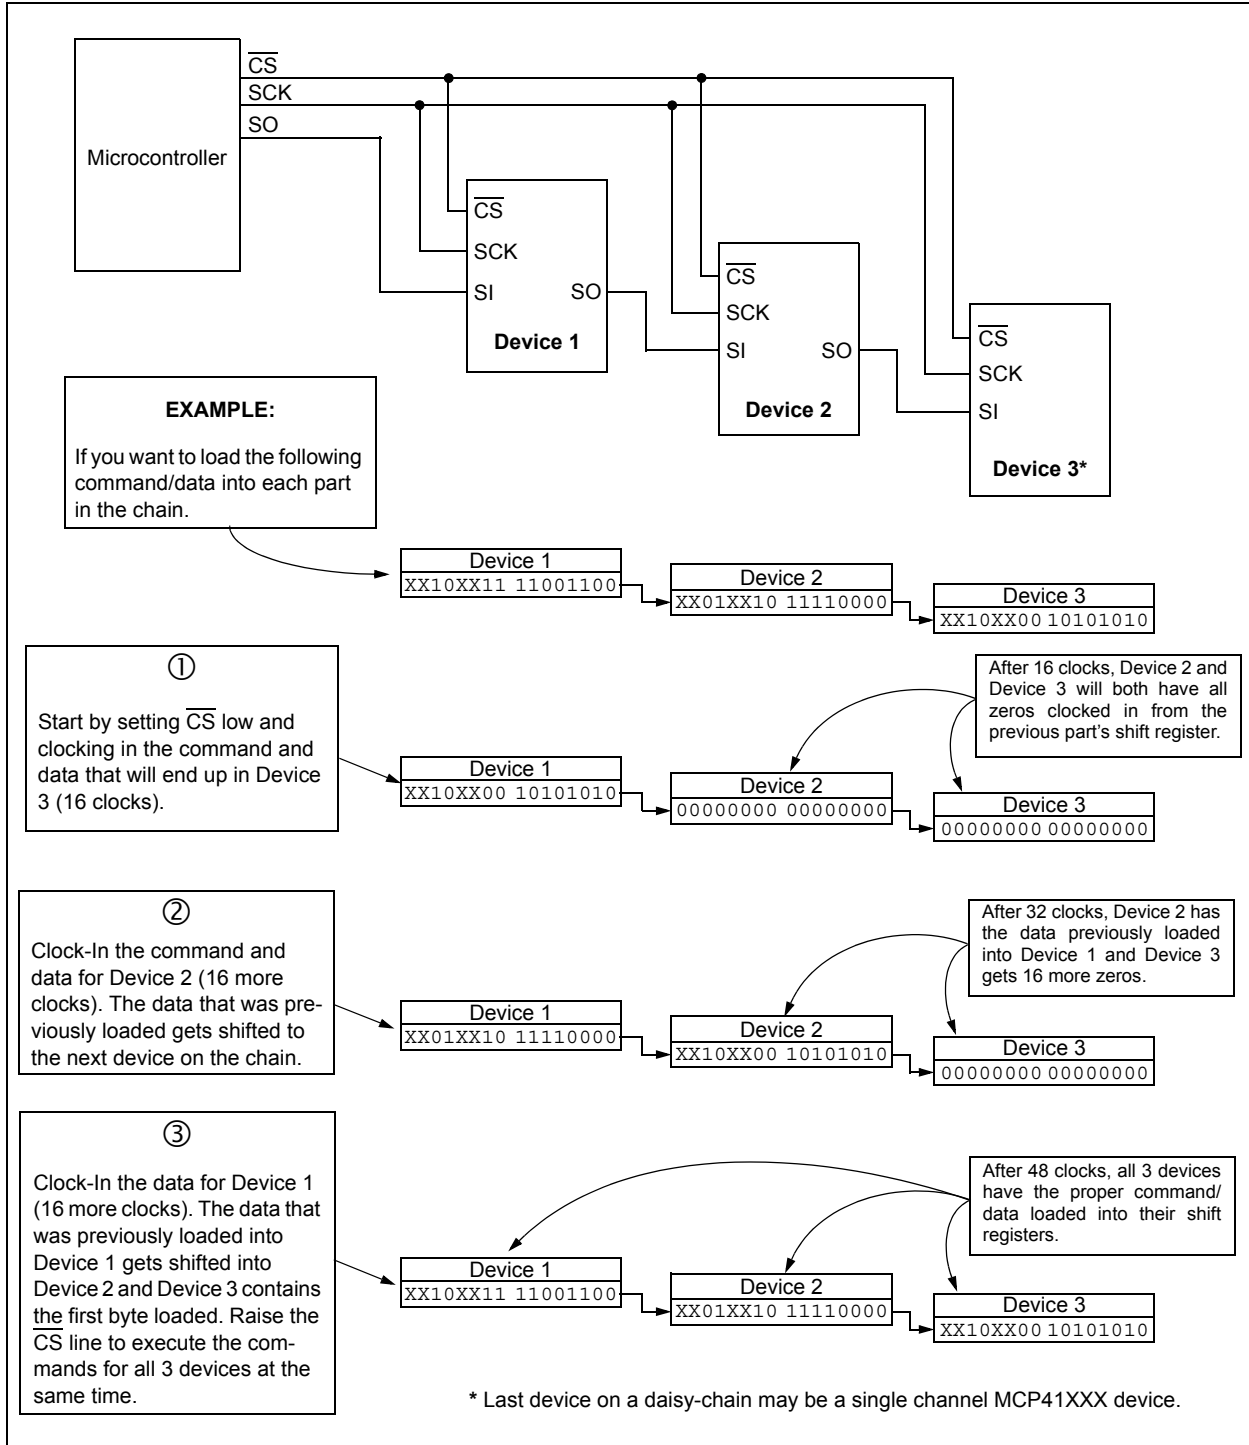

FIGURE 5-4: Daisy-Chain Configuration.
Multiple MCP42XXX devices can be connected in a daisy-chain configuration, as shown in Figure 5-4, by connecting the SO pin from one device to the SI pin on the next device. The data on the SO pin is the output of the 16-bit shift register. The daisy-chain configuration allows the system designer to communicate with several devices without using a separate CS line for each device. The example shows a daisy-chain configuration with three devices, although any number of devices (with or without the same resistor values) can be configured this way. While it is not possible to use a MCP41XXX at the beginning or middle of a daisy-chain (because it does not provide the serial data out (SO) pin), it is possible to use the device at the end of a chain. As shown in the timing diagram in Figure 5-3, data will be clocked-out of the SO pin on the falling edge of the clock. The SO pin has a CMOS push-pull output and will drive low when CS goes high. SO will not go to a high-impedance state when CS is held high.